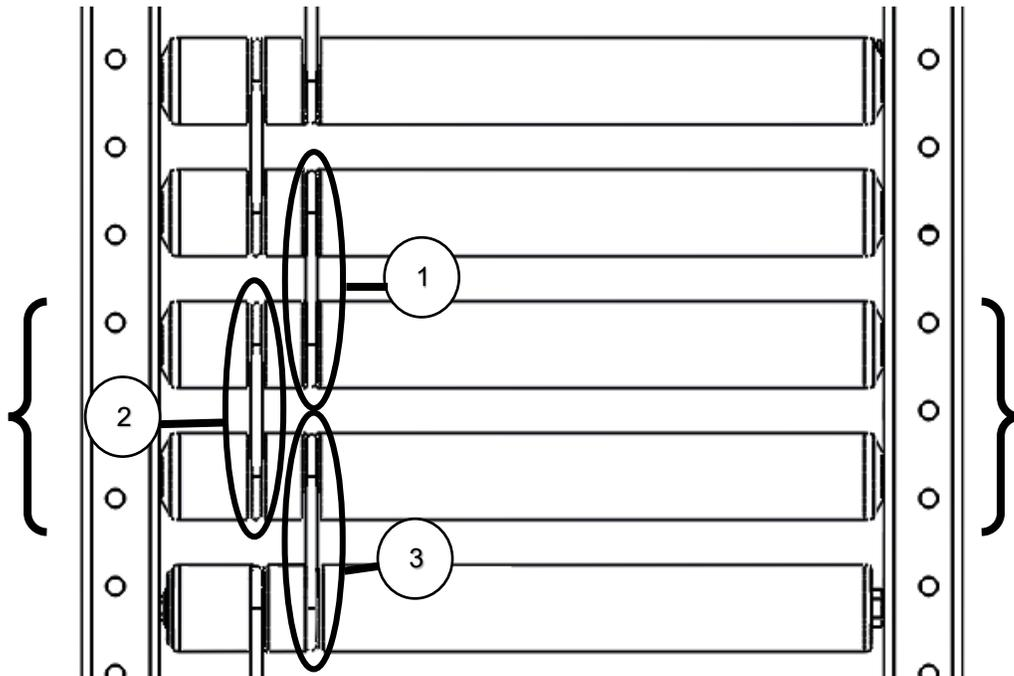

Figure 7: Band Replacement
3. If the band being replaced is on the outside groove/hub of the roller as shown in circle 2 of Figure 7, the two rollers within the brackets will need to be removed. Follow the roller removal steps in the roller replacement procedure.
4. After the rollers have been removed, slide one of the rollers that was removed through the band in circle 1 of Figure 7.
5. After the roller is within circle 1, slide the new band onto the same roller on the groove side of the roller. (Left side in Figure 7)
7. Once the groove side hex shaft (Left side in Figure 7) is within the hex hole, insert the opposite side hex shaft into the appropriate hex hole. Use the roller's length as leverage to aid in this step. As called out in the roller replacement procedure, use a putty knife or other flat surface tool to protect the paint on the side frame.
9. Slide the roller through the old band in circle 3 of Figure 7. Then slide the roller through the new band. (This step can be difficult as the bands are tight.)
11. Once the groove side hex shaft (Left side in Figure 7) is within the hex hole, insert the opposite side hex shaft into the appropriate hex hole. Use the roller's length as leverage to aid in this step.
12. If the band being replaced is on the inside groove/hub of the roller as shown in the blue circle of Figure 7, then remove the hex shafts opposite the groove/hub.